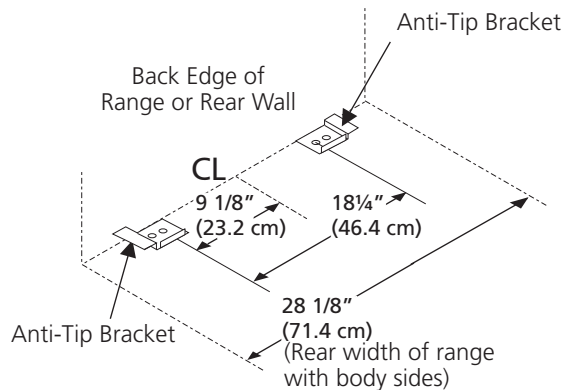

Figure 12
1. Unfold paper template and place it flat on the floor with the back and side edges positioned exactly where the back and sides of range will be located when installed. (Use the diagram below to locate brackets if template is not available (Figure 12)).